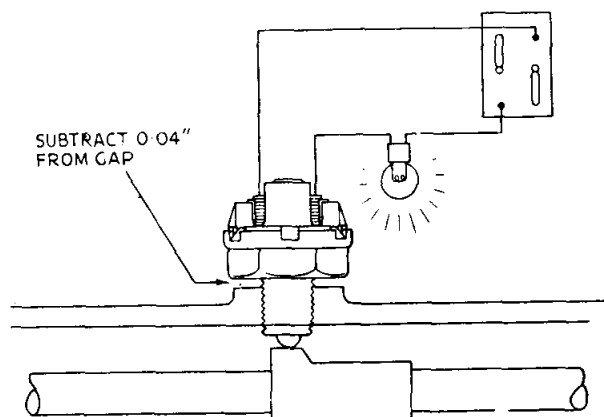

Fig. 42 Adjusting the Isolation Switches.
Switch Adjustment. Fig. 42. It is important when moving the gear lever to an engaged position, that the switch contacts close at a precise point during the lever's movement.
- (b) Wire a bulb in series with the switch contacts and connect to a battery. (Fig. 42).
- (c) Screw the switch into the rear switch boss (Fig. 42), until the contacts close. (Indicated by the bulb lighting.)